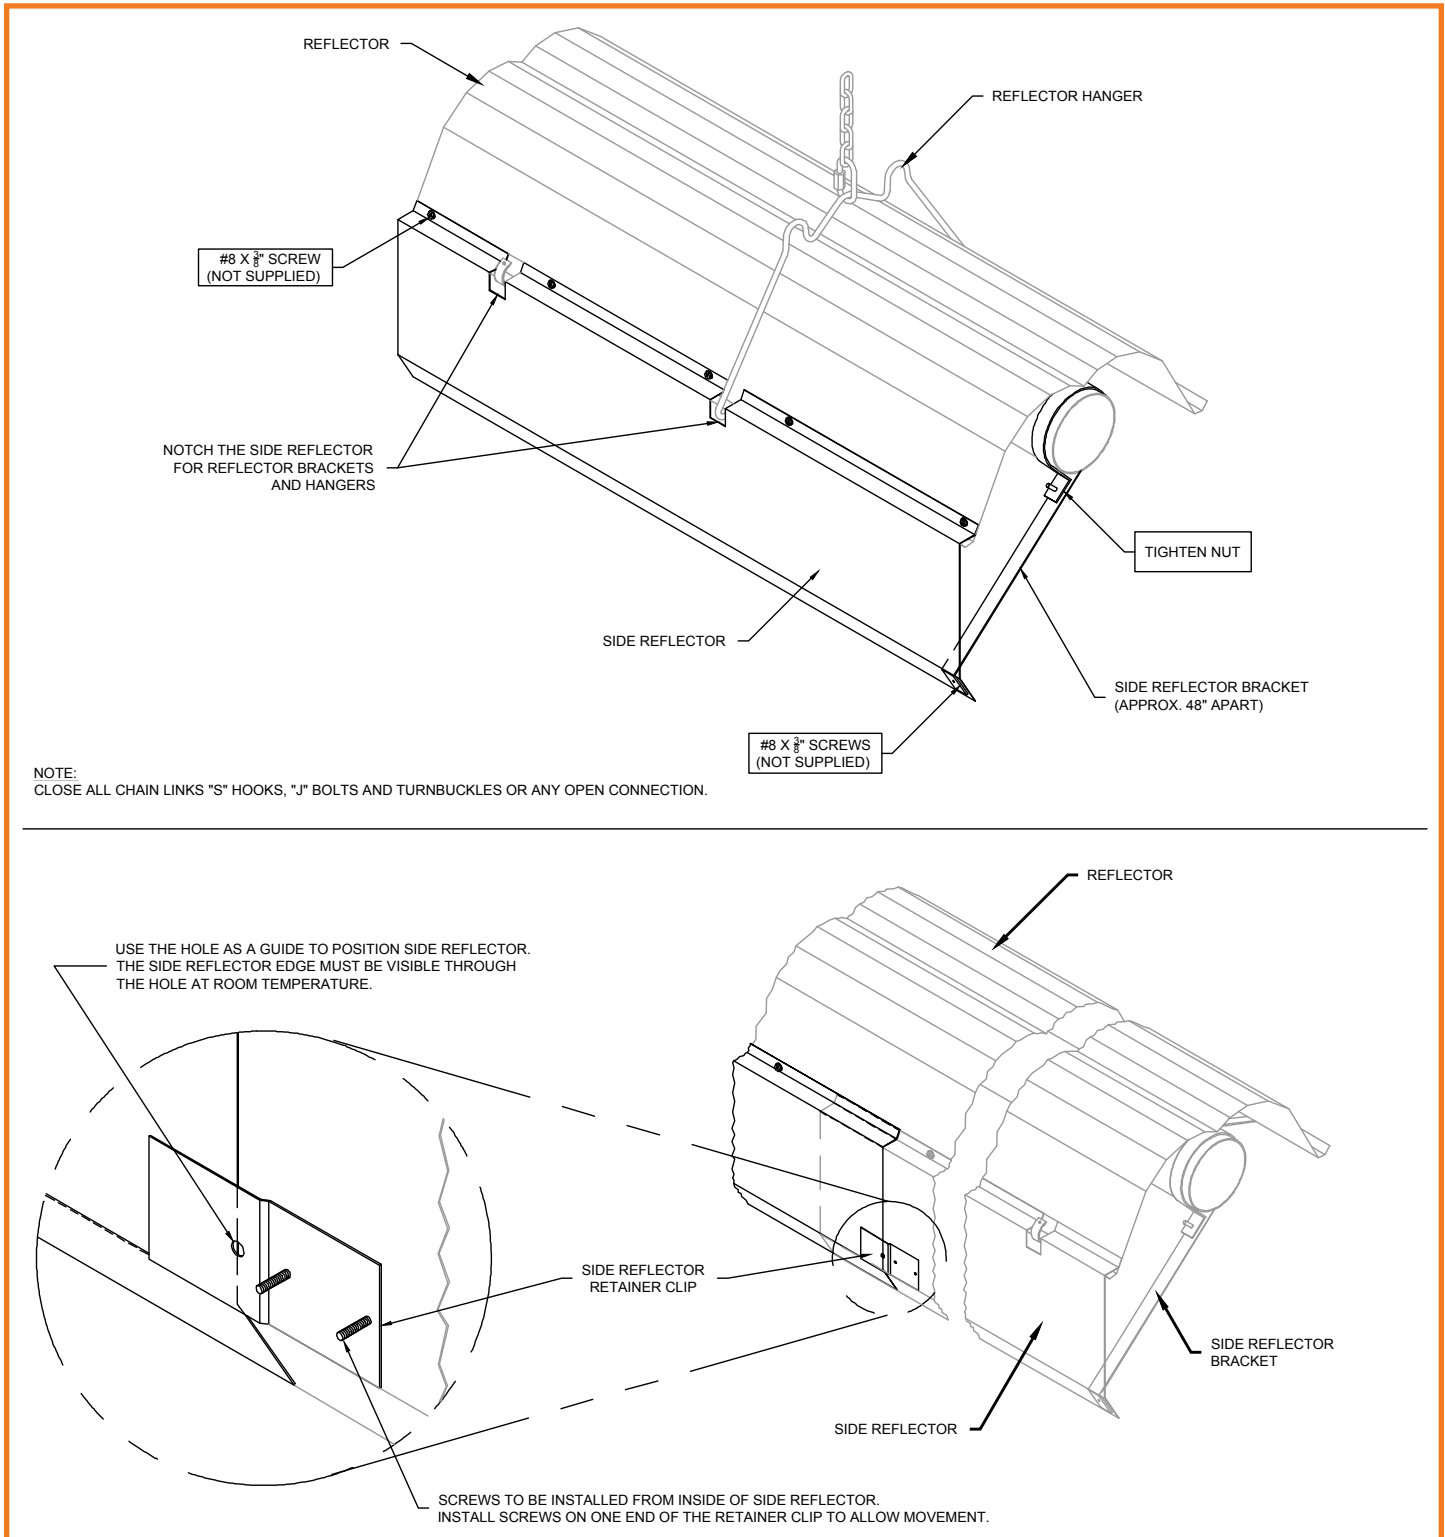
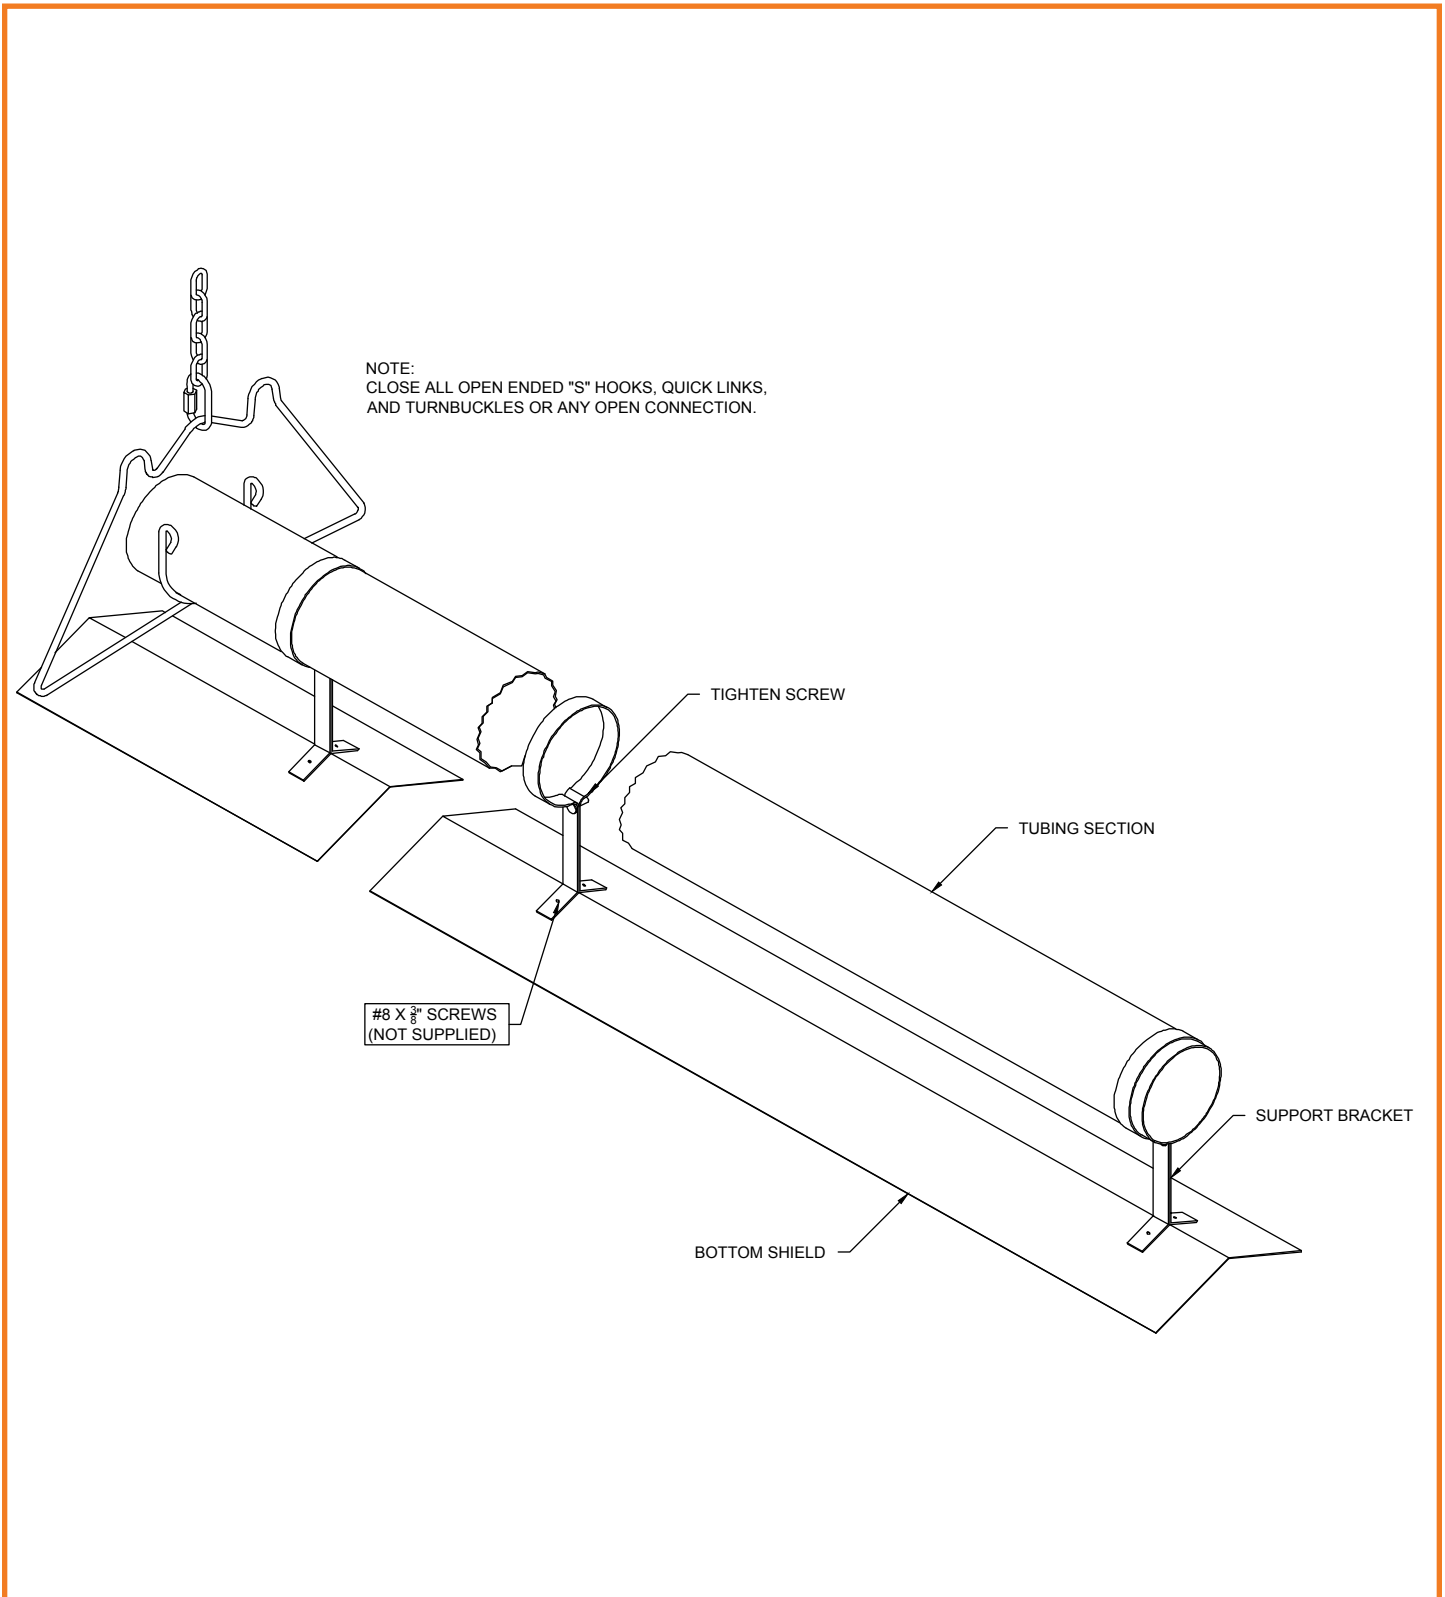

Figure 21: Side Shield Installation
Figure 22: Bottom Shield Installation
- If used, install side shields (reflectors) and/or bottom shield as required. Refer to Figure 21 and Figure 22 for details.
- Side shields are 124" (315cm) long. Fasten one side shield per reflector with #8 x 3/8" screws. Use three side shield brackets per side shield. Space about 48" (122cm) apart, refer to Figure 21.
- Bottom shields need not overlap. Each 5' section is held with two support brackets (see Figure 22).